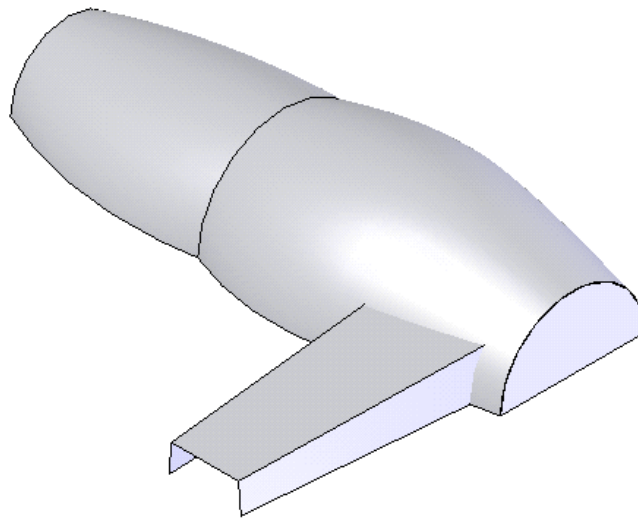

Figure 15-125 Resultant lofted surface
6. Using the **Lofted Surface** tool create the lofted surface as shown in Figure 15-125.